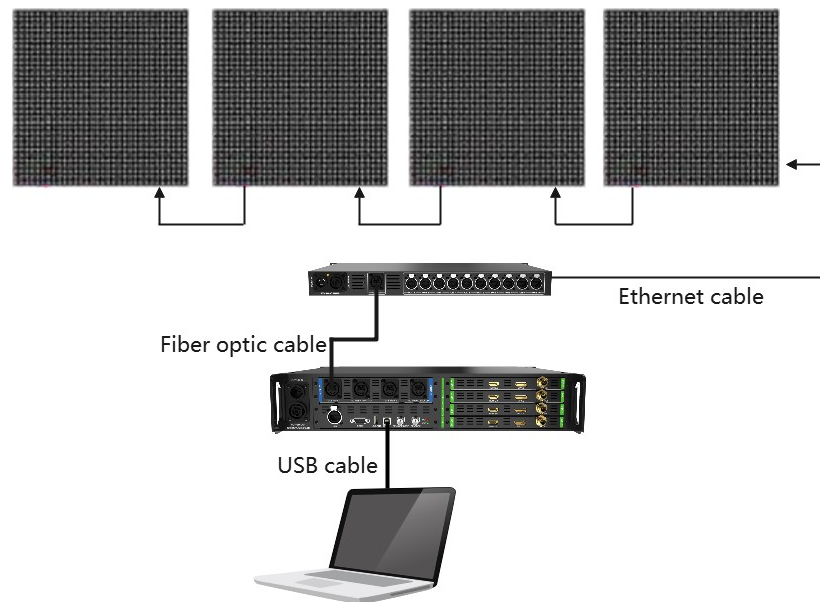

Fig 2.1.1 Device connection topology
Step 1: Cabinets should be connected to the optical fiber transceiver via an Ethernet cable. The optical fiber transceiver and sender are connected with a fiber optic cable. Then connect the transmitter to the computer through a USB cable, as shown in Figure 2.1.1.